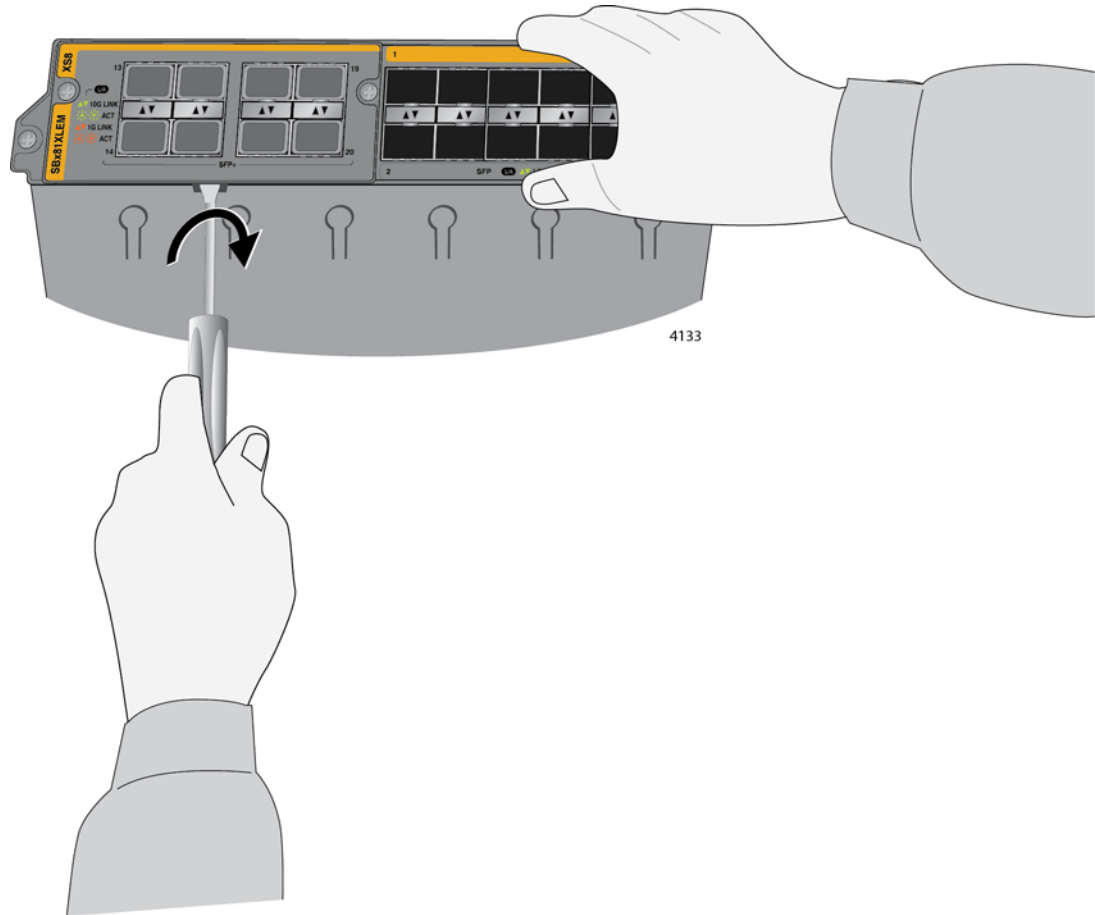

Figure 184. Disconnecting the Expansion Module from the AT-SBx81XLEM Line Card
5. Lift the front of the line card and carefully insert the tip of a flathead screwdriver into the slot beneath the expansion module on the bottom panel. Gently twist the screwdriver to disconnect the module from the connector in the line card. Refer to Figure 184.